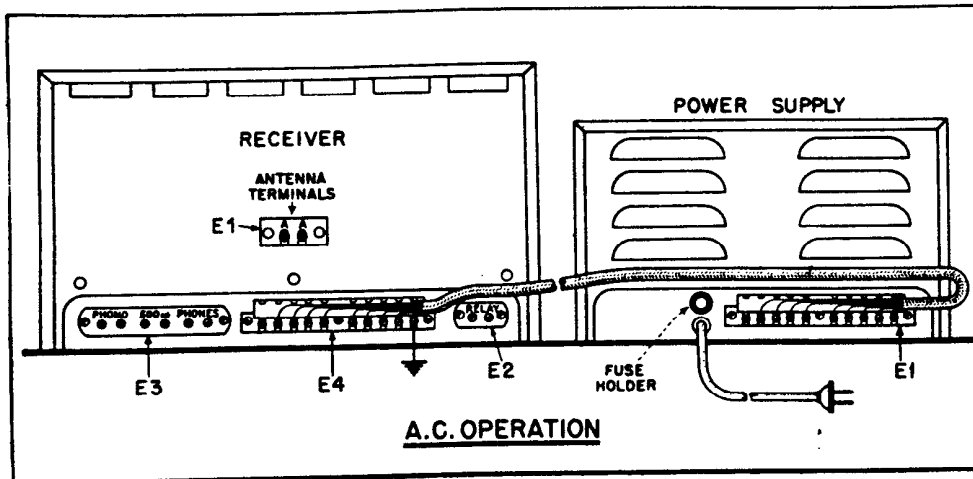

FIG. 3—Connectors for power cable—A.C. operation.
output and is, of course, less at lower levels. The Receiver has two output circuits with marked terminals along the rear of the chassis (FIG. 3).
(1) Remove the sheet-metal covers from terminal strip (E4, FIG. 3) on rear of Receiver and from terminal strip (E1, FIG. 3) on Power Supply. See that all ten screws on each strip are unscrewed at least three turns. Then attach one end of the connector cable to each terminal strip *exactly* as shown in FIG. 3 and tighten all screws securely. Make certain that each slotted spade lug on the cable strips makes contact with its respective screw terminal *only*, since a lug jammed between *two* screws could cause considerable trouble. Immediately
Connect a single-wire lead-in to the end of the antenna nearest the Receiver and try to have the lead-in wire leave the antenna approximately at right angles. Connect the lead-in to one of the "A" terminals (on terminal strip E1, FIG. 3) at the rear of the Receiver. Connect the other "A" terminal to a good ground, preferably not to the Receiver chassis. Run this ground lead to a water pipe or to a metal rod driven into the ground deep enough to reach moist earth. Keep
d. *Chassis Ground:* It is not usually necessary to ground the Receiver chassis, but this can be done by connecting the ground lead to the left-hand PHONO or to the left-hand PHONES terminal (located on terminal strip E3, FIG. 3). These two terminals are grounded to the inside of the chassis.
f. *Loudspeaker:* The permanent magnet dynamic loudspeaker supplied with the Receiver has a transformer mounted on its housing. This transformer matches the voice coil of the loudspeaker to the 500-ohm output terminals (on terminal strip E3, FIG. 3) located at the rear of the chassis (marked 500 ohms). For loudspeaker operation,
periods. Note also that instead of using the SEND-REC switch, a relay may be connected to the RELAY terminals (E2, FIG. 3) at rear of Receiver and silencing controlled by relay action, actuated, for ex-
e. Phono Operation: Leads from a phonograph pickup may be connected to the PHONO terminals (on terminal strip E3, Fig. 3) at the rear of the Receiver. (Note that the left-hand terminal of this pair is grounded to chassis.) Use the SEND-REC switch (S6) as a "phono-radio" switch by flipping it to the SEND position, thus eliminating radio interference and making it unnecessary to hunt for a "dead spot" on the tuning dial.